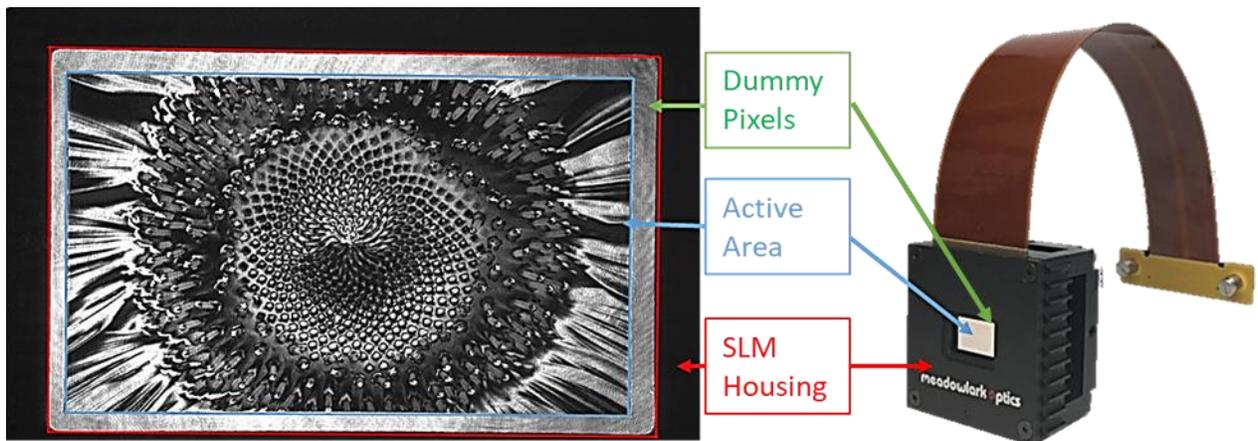

Figure 2 – Nematic SLM imaged as an amplitude modulator in a slightly off axis configuration. The blue box indicates the active area of the SLM.
3. Place an iris just before the SLM to match the diameter of the illumination to the active area of the SLM. Validate the position and radius of the iris with respect to the SLM by imaging the SLM onto a camera. The illumination should slightly under-fill the active area of the SLM as shown in Figure 2.